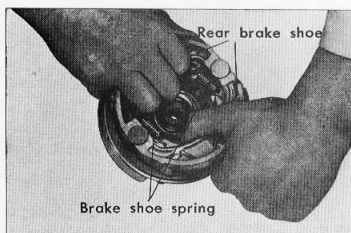

Figure 4-18. Removing front brake shoe
- (1) Place an adequate stand under the engine to raise the front wheel.
- (2) Remove the front brake cable and the speedometer cable.
- (3) Remove the axle nut and pull out the front wheel axle, then the front wheel and the front brake panel can be removed as a unit.
- (4) The brake shoe is fixed in place with the brake shoe spring; therefore spread the brake shoes apart and remove from the panel. (Fig. 4-18)